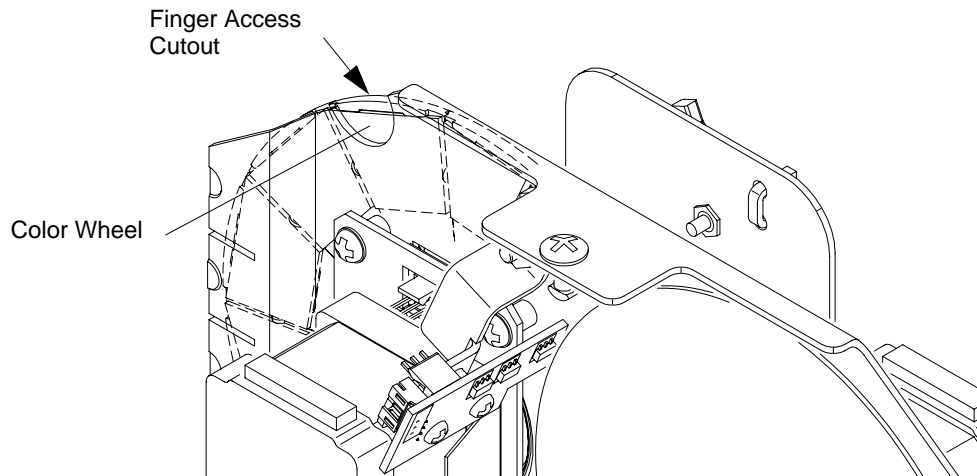

Figure A-3: Filter Replacement
Step 3. Rotate wheel until required color filter is accessible at finger access cutout. See **Figure A-3**.